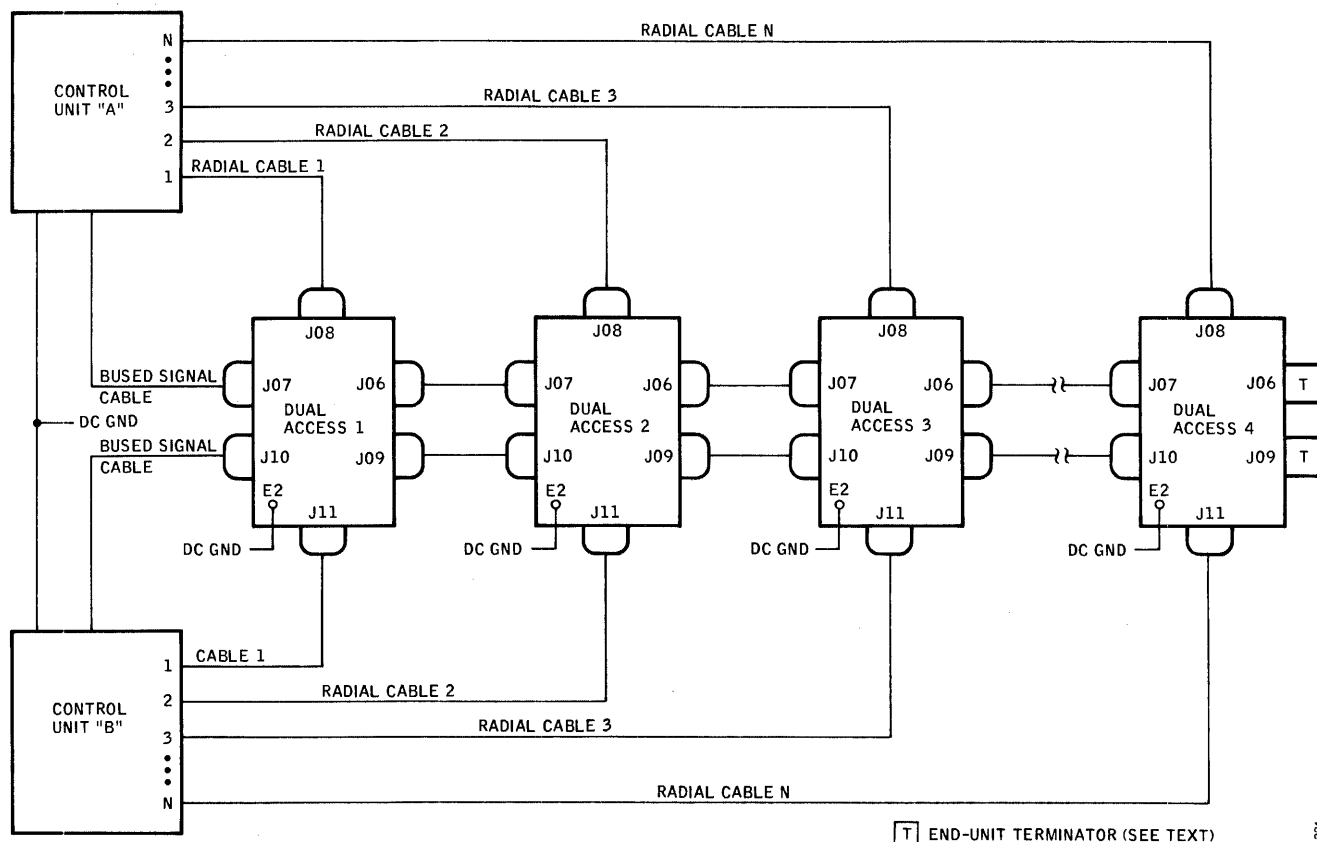

Figure B-3. Control Unit – Dual-Access System Cabling
8. While referring to Figure B-3, continue with system interconnection. Connect the radial cable assigned
9. Install bused signal cables between Control Unit A and the various Dual-Access Assemblies in the system, using Dual-Access Assembly rear connectors J07 (IN) and J06 (OUT), as shown in Figure B-3. Standard Bused Signal cables for single access can be used for this purpose. A Signal Line Terminator (Part No. 12421-001) must be plugged into connector J06 of the end unit as noted.
10. Install bused signal cables between Control Unit B and the various Dual-Access Assemblies in the system, using Dual-Access Assembly rear connectors J10 (IN) and J09 (OUT), as shown in Figure B-3. Standard Bused Signal Cables for single access can be used for this purpose. A Signal Line Terminator (Part No. 12421-001) must be plugged into connector J09 of the end unit as noted.